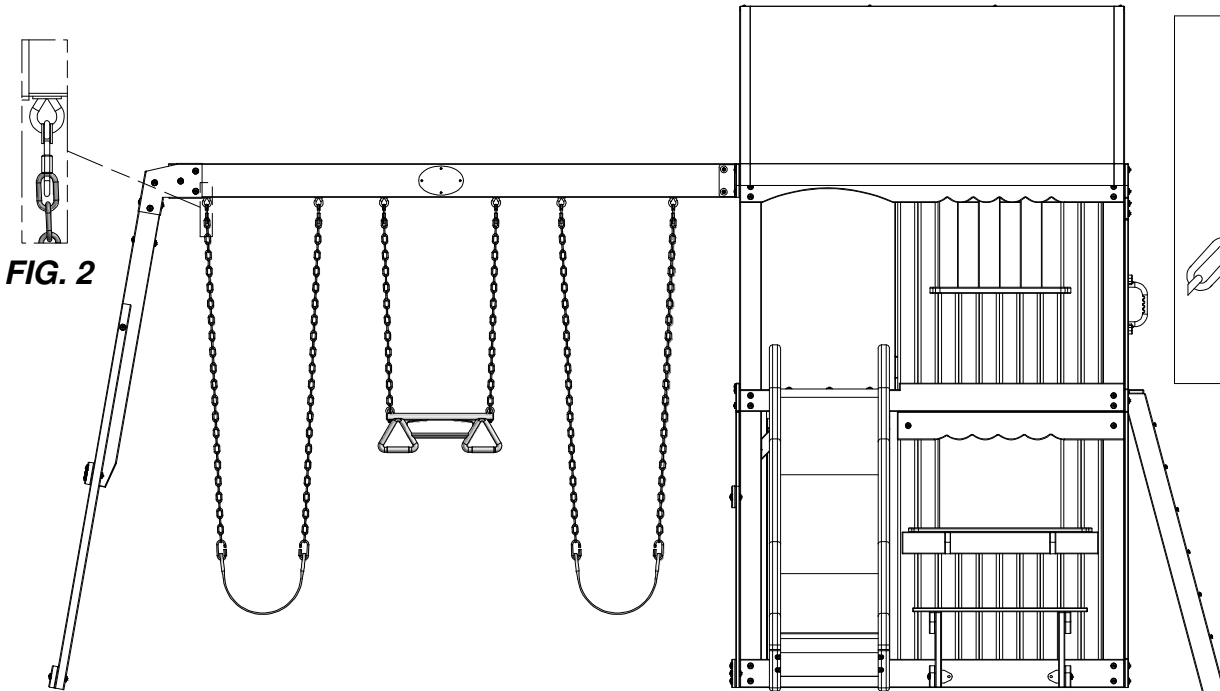
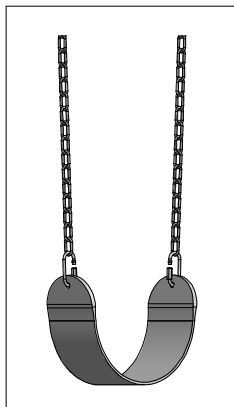

FIG. 2
FIG. 1
(1) TN - TRAPEZE WITH HARDWARE YELLOW - A100334
ATTACH FB SWING SEAT TO (2) EZ CHAINS USING (2) FA QUICK LINKS, AS SHOWN (FIG. 1). REPEAT PROCESS TO ASSEMBLE SECOND SWING ASSEMBLY. NOW, ATTACH EZ CHAINS TO SWING HANGER QUICK LINKS ALREADY ASSEMBLED TO THE SWING BEAM (FIG. 2).